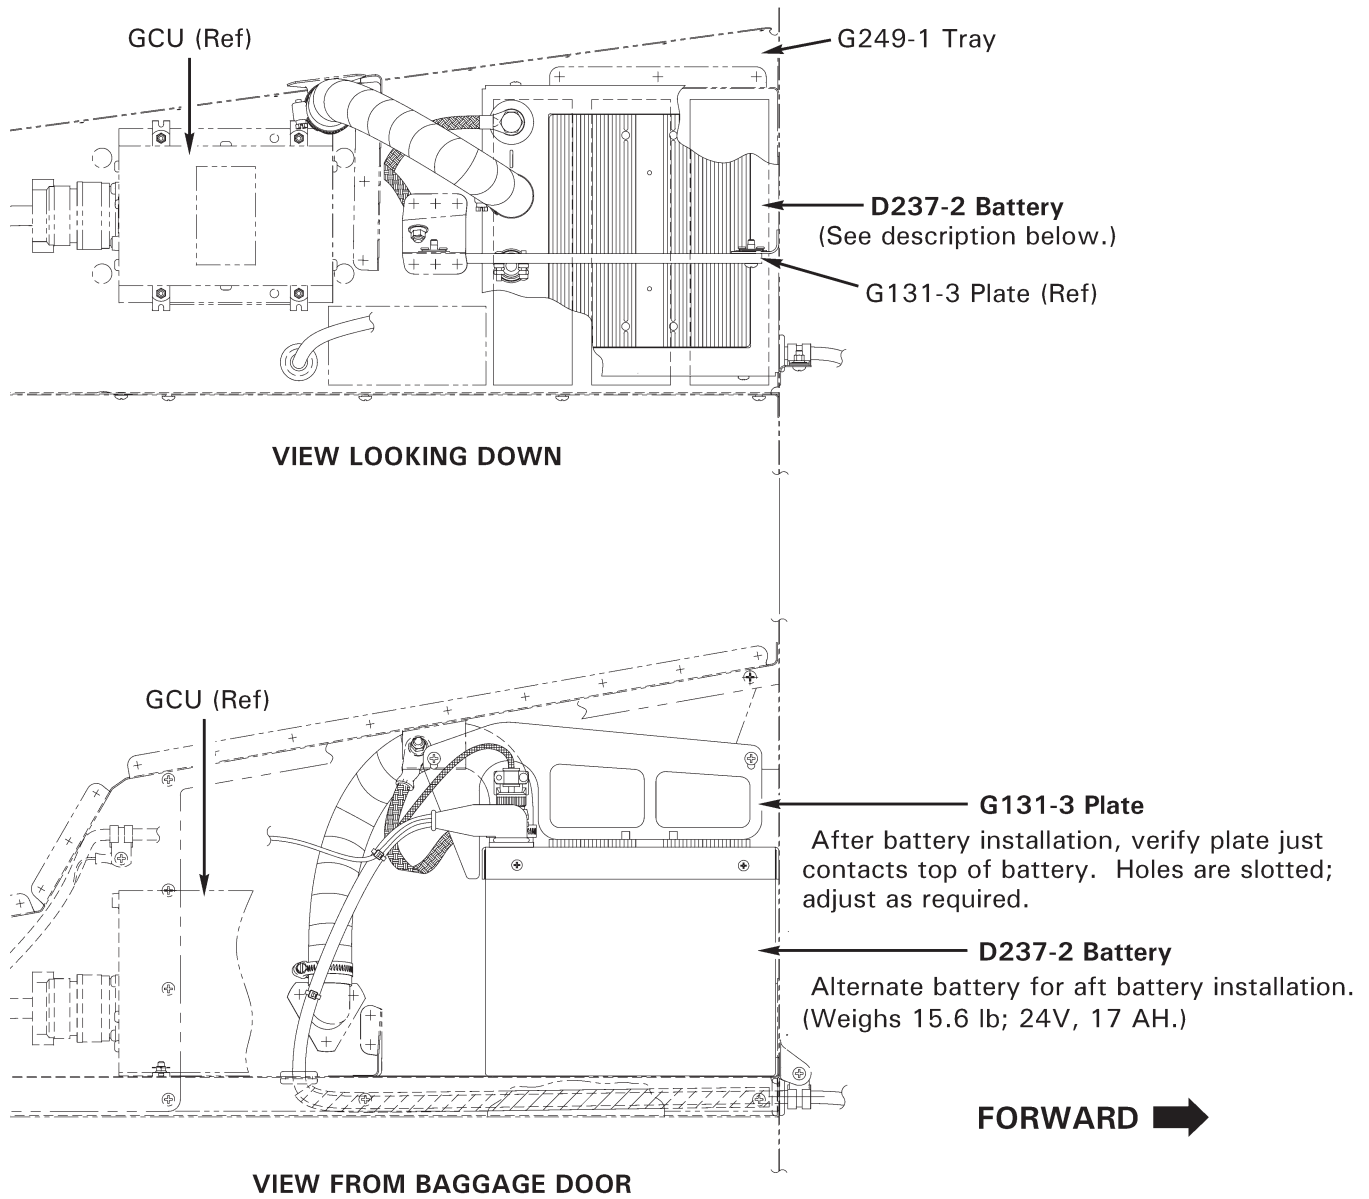

FIGURE 96-2 LITHIUM-ION BATTERY INSTALLATION
4. Refer to Figure 96-2. Verify security, proper orientation, and installation of G131-3 plate. Carefully install battery.